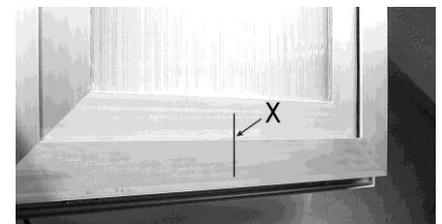

Figure 2
- Trace centrepoint X in pencil onto the window frame (Fig.2).